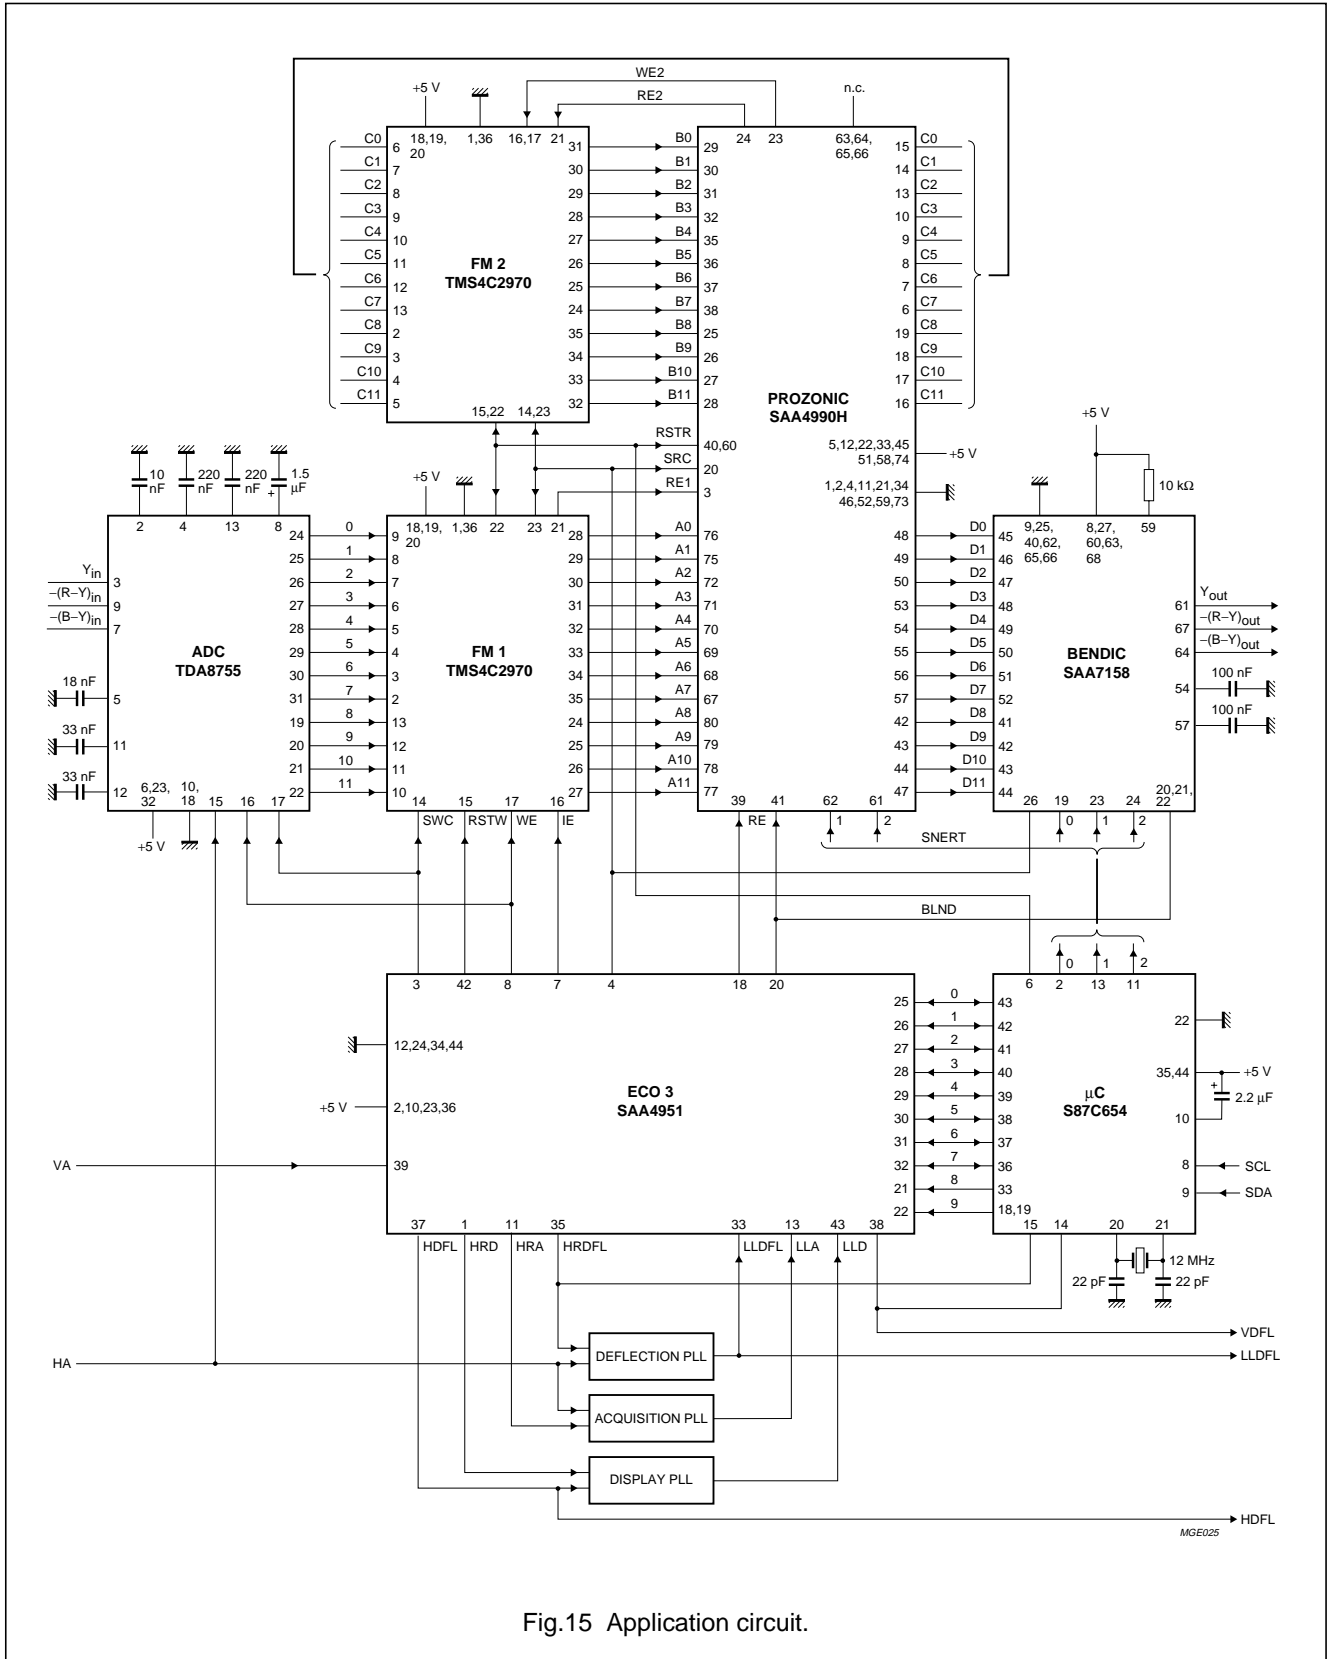

Fig.15 Application circuit.
The basic application of PROZONIC in a feature box is shown in Fig.15. Here, apart from the data streams, the 'timed control data' streams indicate that some memory control signals have to be processed by the PROZONIC, in order to let the vertical sample rate conversion function correctly.
**Table 12** Abbreviations used in Fig.15